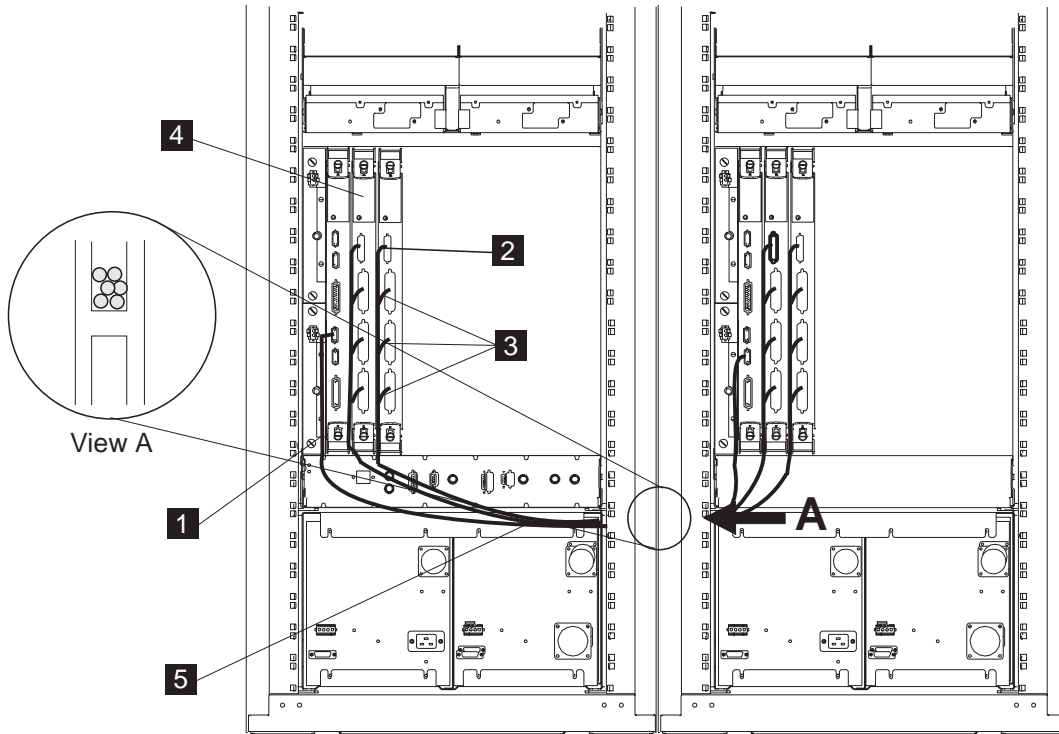

Figure 3-10. Inter Machine Cables Routed On the Bottom of the Logic Subrack
3. \_\_\_\_ Refer to Figure 3-10 on page 3-13, and route the inter-machine cables on the bottom of the logic subracks (reference **5**), then go to Step 5 on page 3-14.
5. \_\_\_\_ Refer to Figure 3-10 or Figure 3-11 and carefully connect cable **2** (PN 57G8045) from **connector 1** of the switch module to **connector 1** of the switch redrive module.